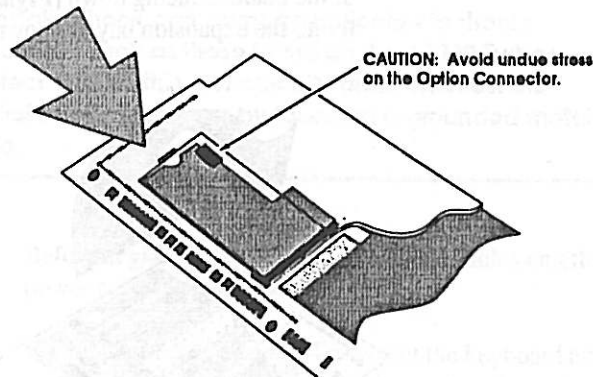

Figure 1.4 - Align the expansion and card-edge connectors.
4. Align the connector of the A1230 Turbo+ with the corresponding card-edge expansion bus inside the A1200 (Figure 1.4).